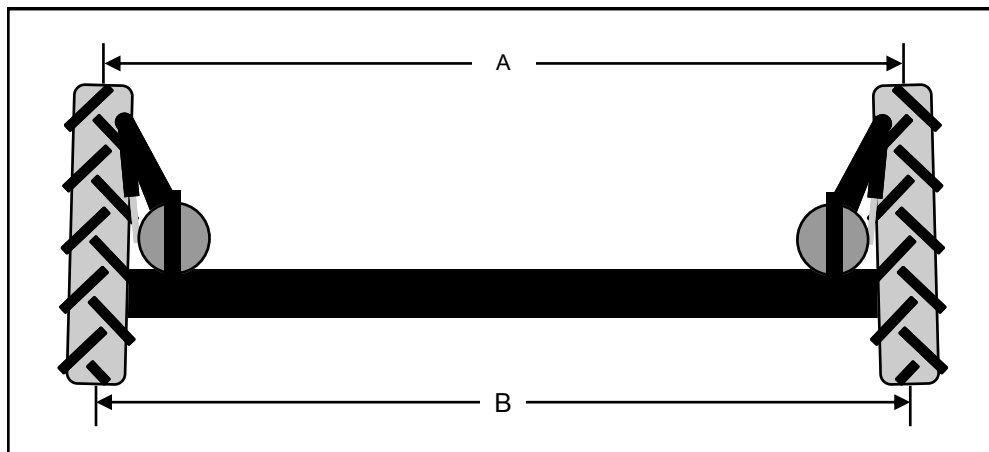

FIG 7.58
4. Move left and right tires evenly until the difference in dimension "A" and "B" (fig. 7.58) are within specified range.